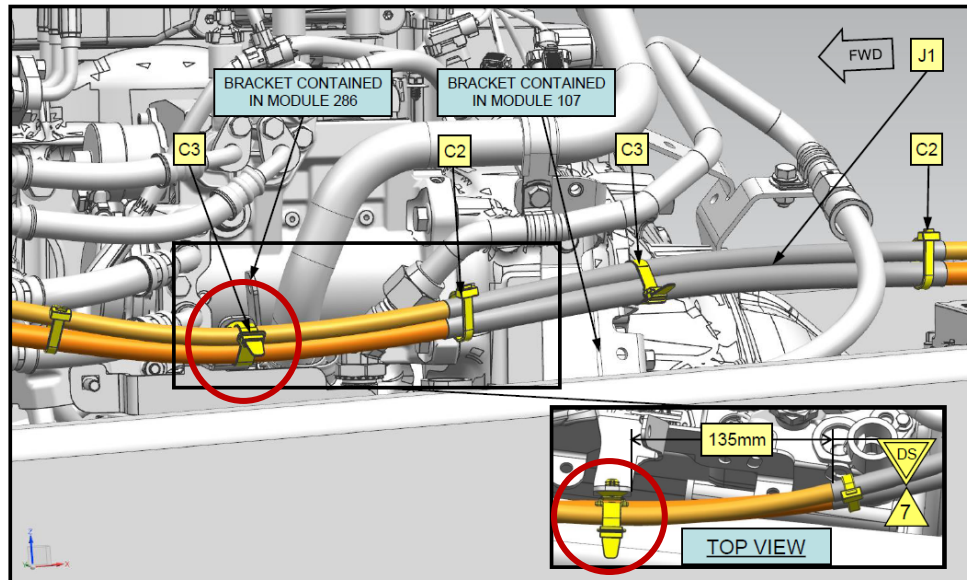
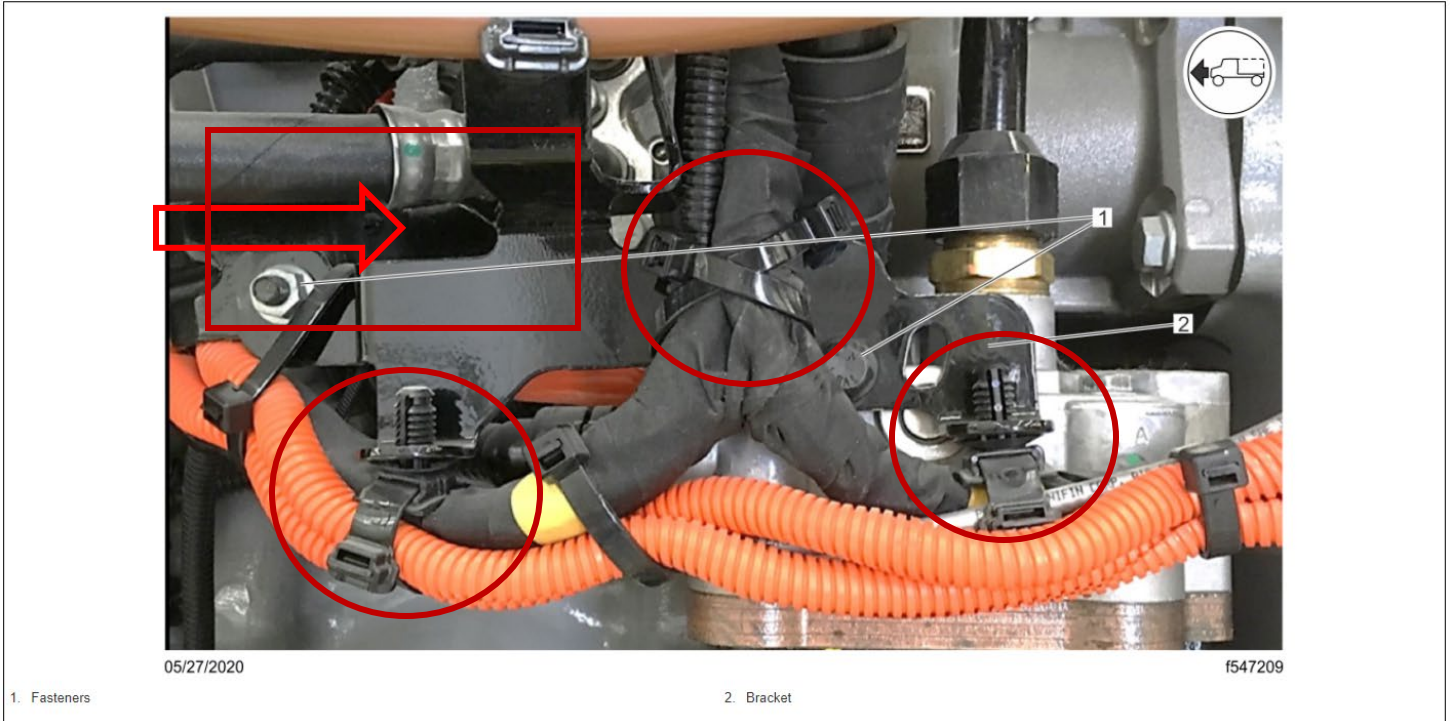

Fig. 2, Fuel Line and Harness Attached to Engine Harness Mounting Bracket
Fig. 3, Engine Harness Routing Showing Tie Straps to Remove and Area of Reduced Clearance
5. Remove the tie straps attaching the harness and fuel line to the engine harness mounting bracket. See **Fig. 2** and **Fig. 3**.